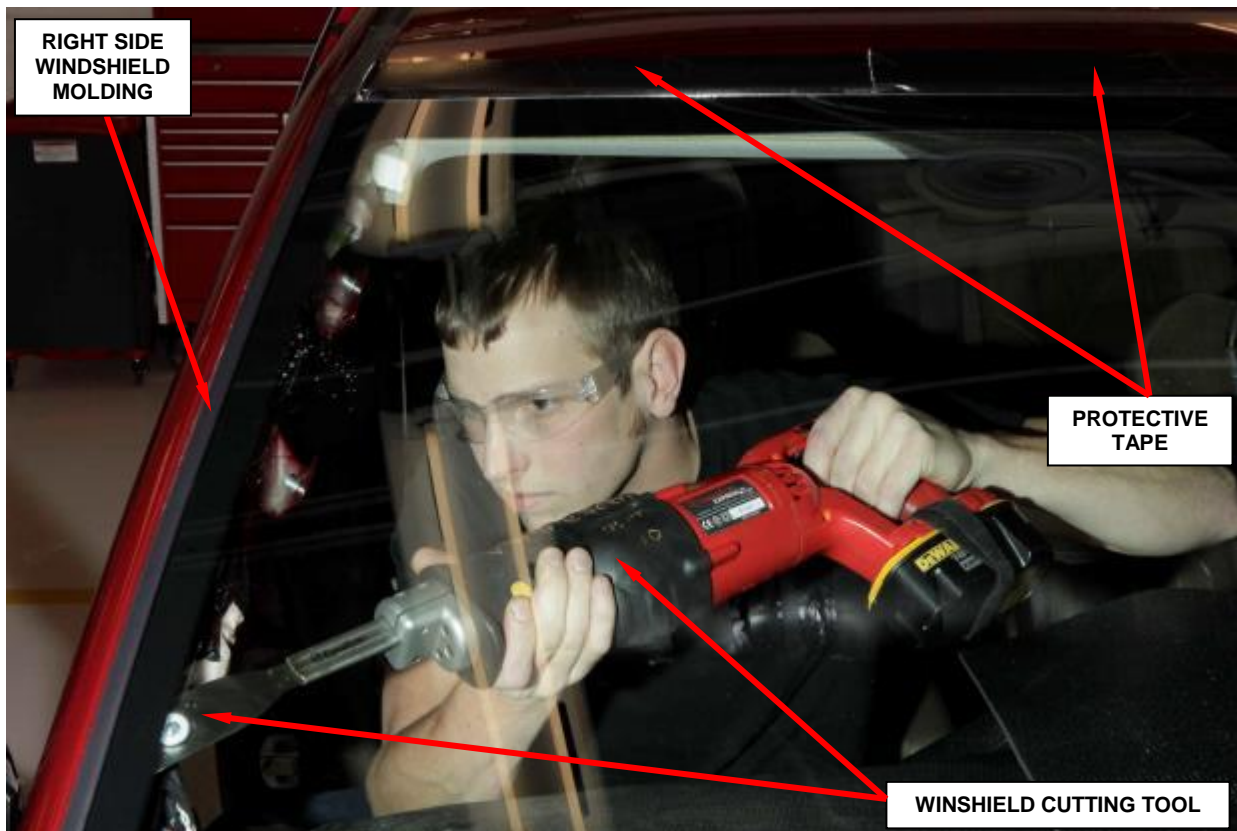

Figure 4 – Windshield Cutting Tool
9. Using an appropriate windshield cutting tool carefully cut and separate the urethane adhesive securing the windshield to the windshield fence (Figure 4).
10. Remove and **discard** the windshield and windshield side moldings (Figure 4).